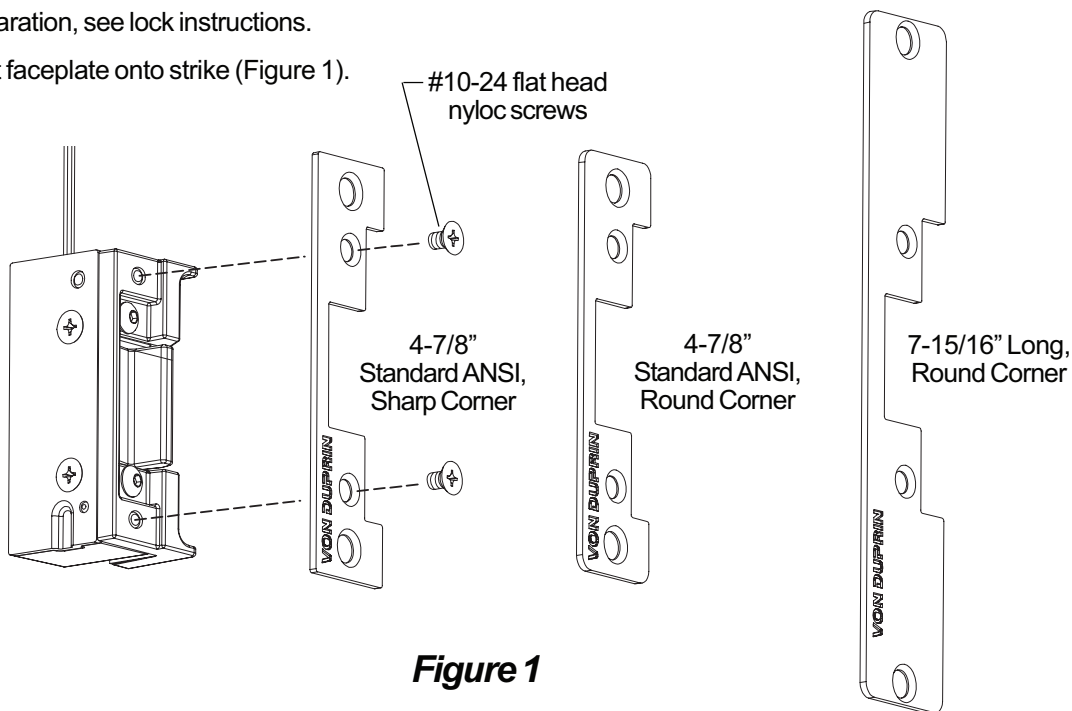

Figure 1
2. Install correct faceplate onto strike (Figure 1).